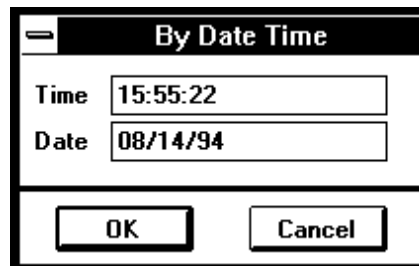

Figure 5-26: By Date Time Dialog Box
3. If you would like to review logged traces of another date and time, then click on **by Date Time** to open the **By Date Time** dialog box (Figure 5-26).